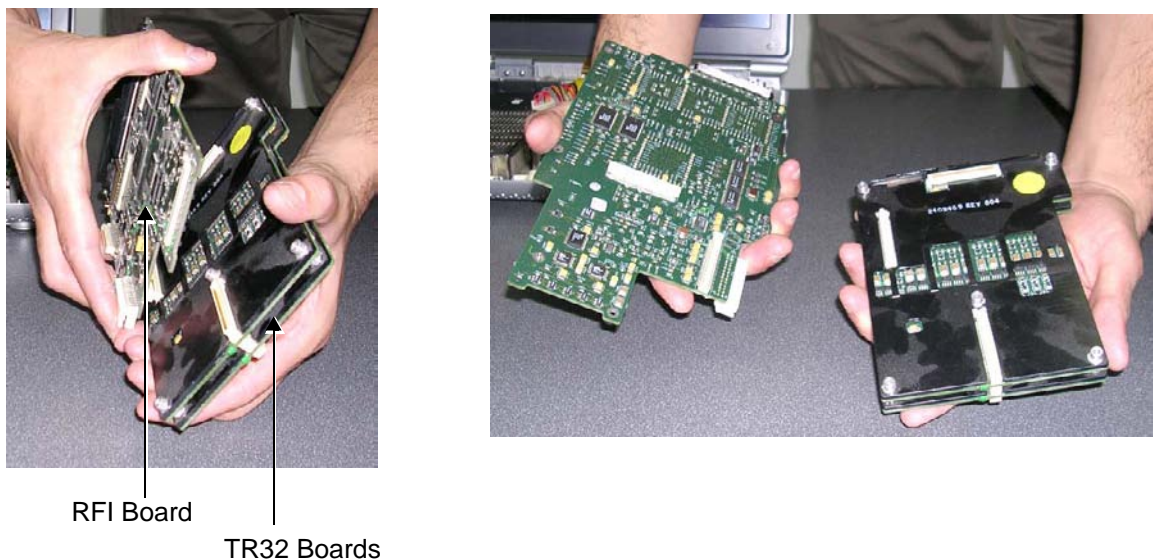

Figure 8-31 Removing the RFI Board from the TR32 Boards
- 8.) Remove the RFI Board from the TR32 Boards (separate by gently pulling them apart), as shown in Figure 8-31 below.
- 2) Connect the TR32 Boards to the RFI Board (gently press together as shown in Figure 8-31 on page 8-30).